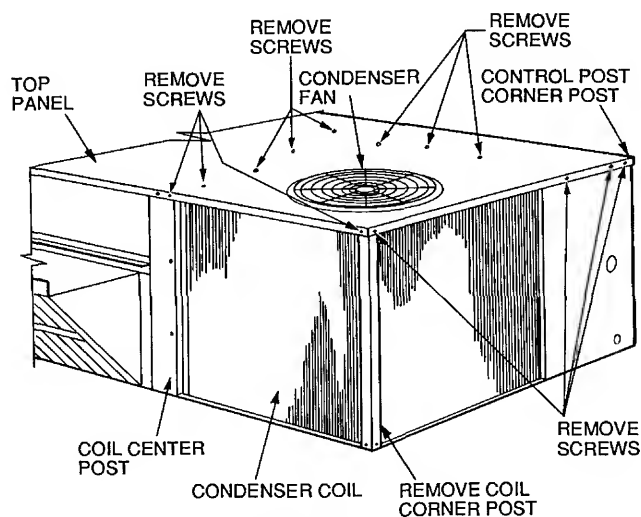
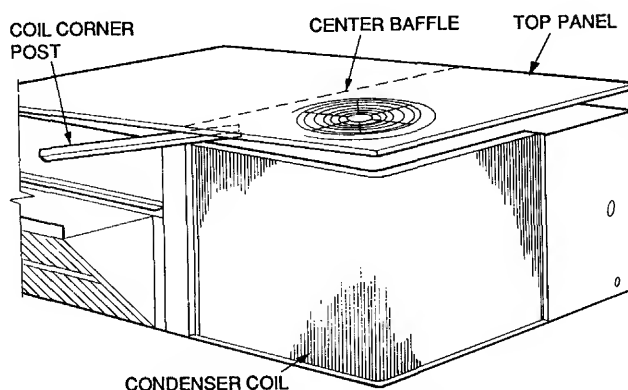

Fig. 28 — Cleaning Condenser Coil
Fig. 29 — Propping Up Top Panel
3. Remove condenser coil corner post. See Fig. 28. To hold top panel open, place coil corner post between top panel and center post. See Fig. 29.